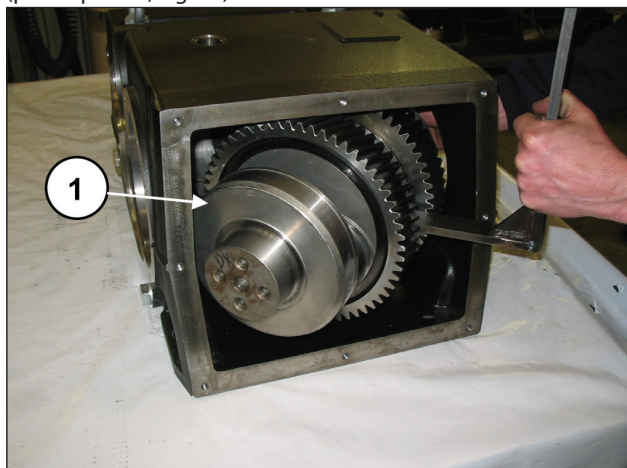

Fig. 40
Remove the crankshaft from the back of the casing (pos. ① pos. ①, Fig. 40).